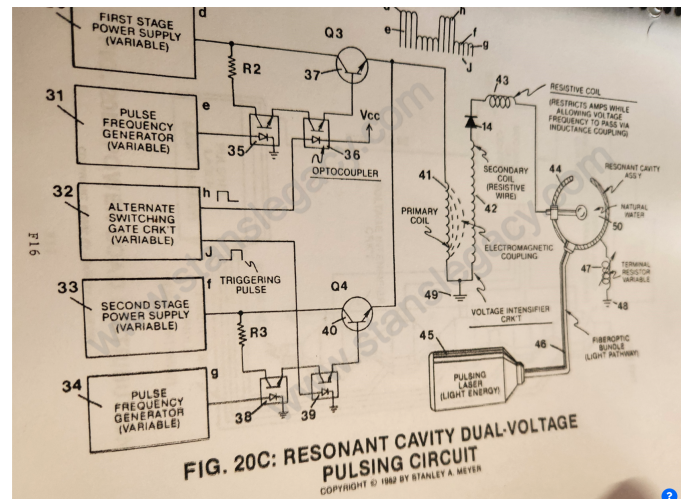
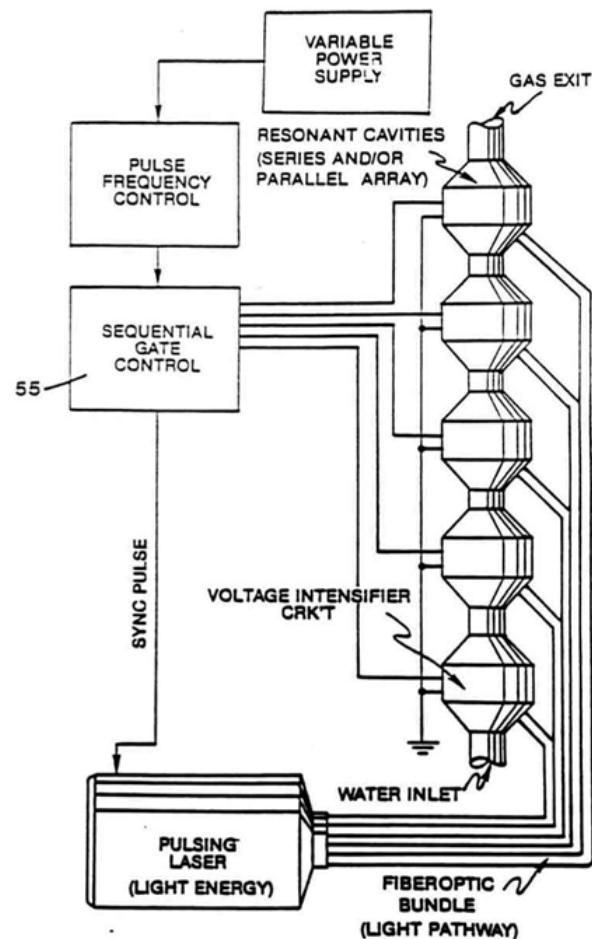

FIG. 20C: RESONANT CAVITY DUAL-VOLTAGE PULSING CIRCUIT
FIG. 20D: POWER LOAD DISTRIBUTION
Laser or **light energy** (45) of Figure 20C and Figure 20D is now injected into said high intensity voltage zones to help cause said liberated gas atoms (remember ambient air gases are also being released from said water) to reach said gas ionization state.
Said ionized gases enter into other resonant cavities (see *Figure 20D as to Figure 20C again*) in stacked relationship (*exit port to inlet port*) undergoing the same gas ionization process.